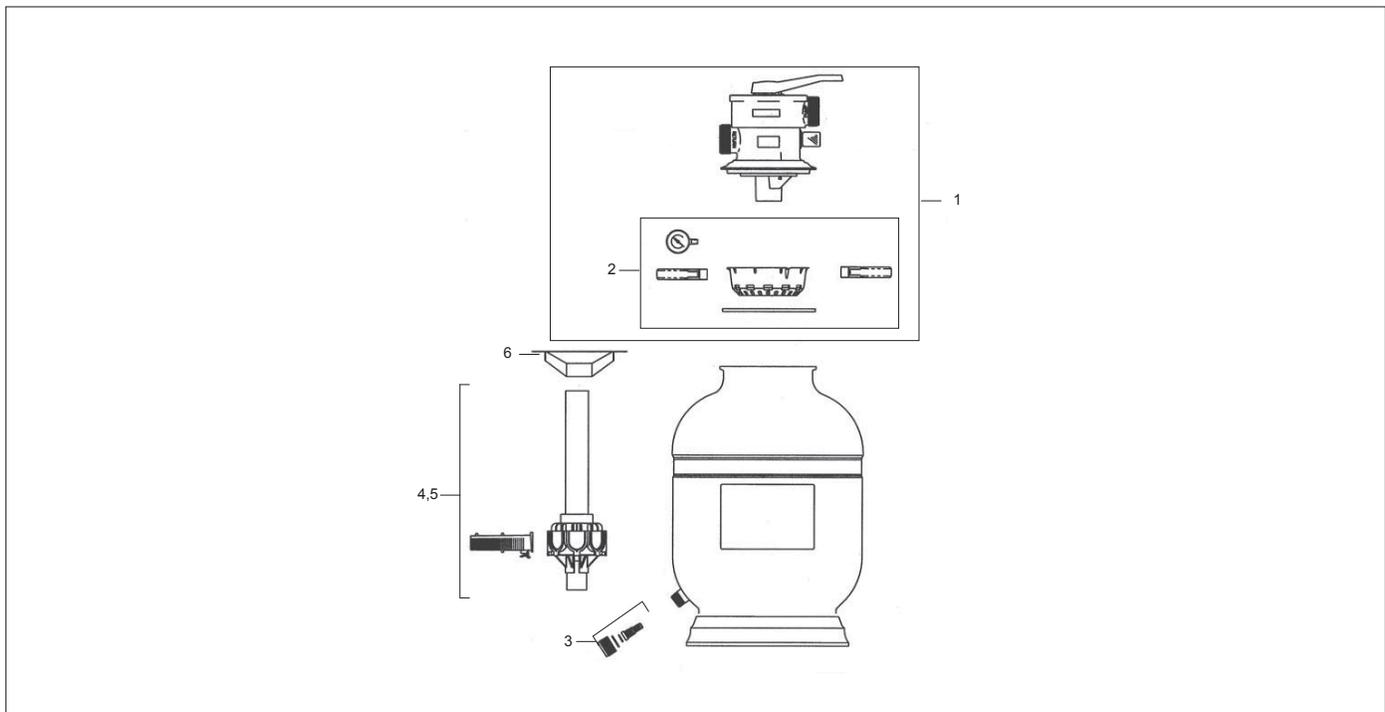

Figure 1. Sand Filter Replacement Kits
Table 1. SFTM Sand Filters Parts List (see Figure 1)
4. Install the eight (8) new laterals. The laterals must be firmly “snapped” into position. In the correct position, the locking snap will be in the 6 o’clock or “down” position. The slots on the laterals will be in 3 o’clock and 9 o’clock or “side” positions. See figure 1 for an illustration of how the laterals are snapped in.